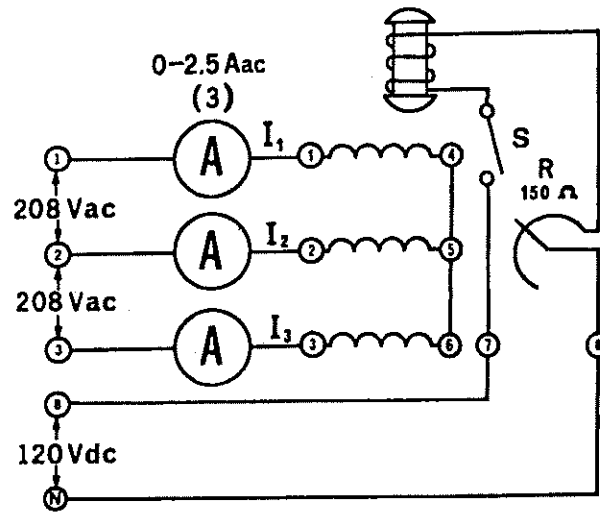

Figure 1-1.
- 2. Using your Power Supply, and AC Ammeter, connect the circuit shown in Figure 1-1.
- b. Connect the motor as shown in Figure 1-1.
- b. Connect the synchronous motor as shown in Figure 1-1.